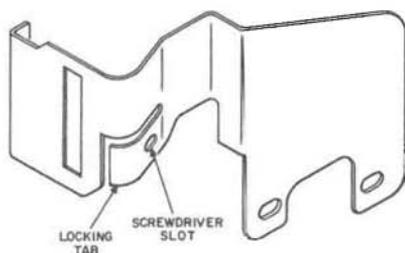

Fig. 25—P-23F361 Entrance Stop
- (a) The P-23F361 entrance stop (Fig. 25) is installed on the chute to minimize coin chute stuffing. When the coin release lever is operated, the entrance stop moves sideways and closes the coin slot.
(b) On later production entrance stops, a prefabricated locking tab arrangement (Fig. 25) can be bent with a screwdriver, by authorized personnel, to hold the upper plate assembly off normal. This will prevent customer coin deposits in newly installed coin telephone sets awaiting initial service connection, or those that are out of service which require further maintenance or repair.